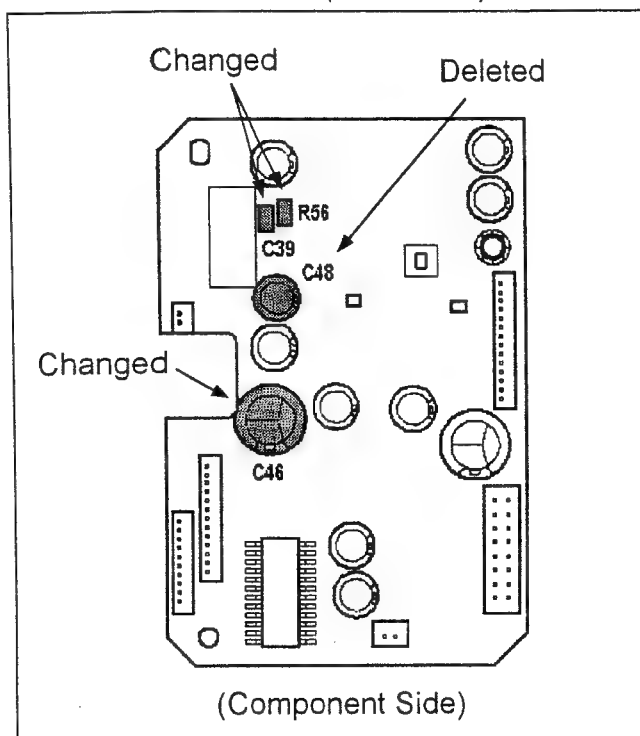

Fig. 4
- 1). Capacitor C9039 is changed from 50V/33pF to 50V/82pF on component the side as shown in figure 4.
- 3). Capacitor C9046 is changed from 50V/82μF to 63V/68μF on the component side as shown in figure 4.
- 7). Resistor R9056 is changed from 1/10W, 1KΩ to 1/10W, 680Ω on the component side as shown in figure 4.